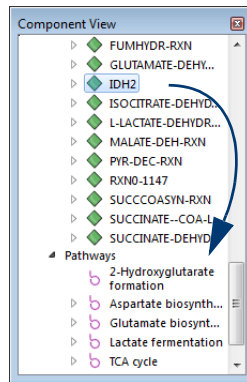

Figure 101 Drag a reaction to a pathway in the Component View dialog box
- b Drag the **IDH2** reaction node to the **2-Hydroxyglutarate formation** pathway in the *Component Viewer* window (Figure 101).